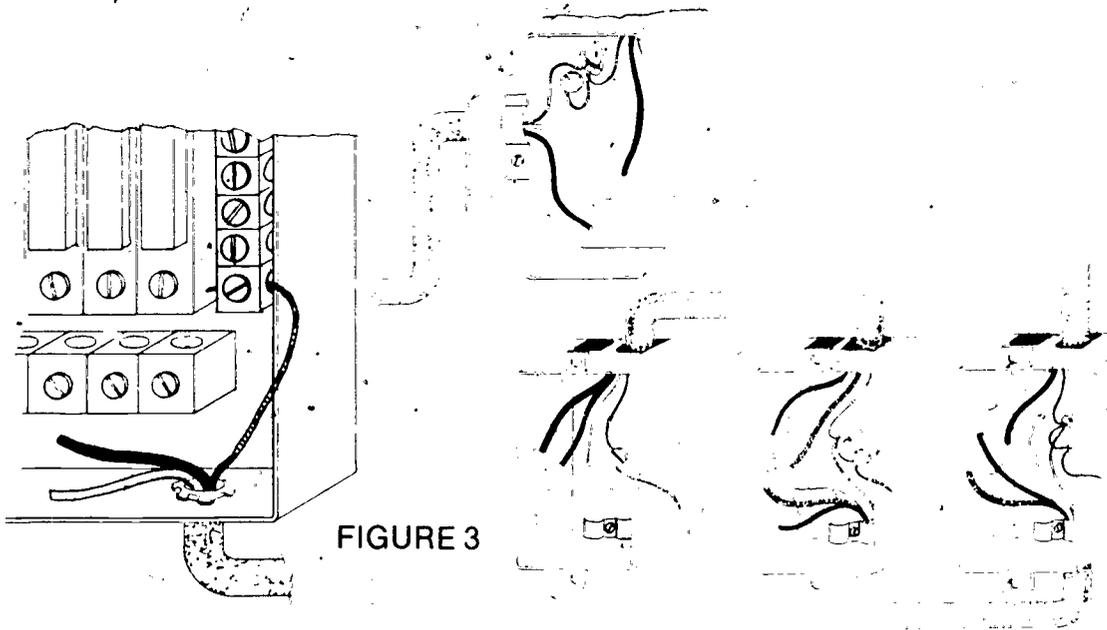

FIGURE 3
K. Connect all grounding conductors. (Figure 3)